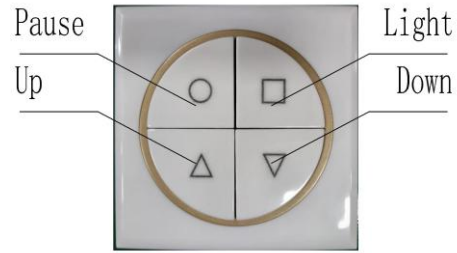

Fig 6.2
(2) Method 2: Use the wall-mounted remote control (Figure 6.2). Press the Up or Down button to control the rise and fall of the pool cover, and press the Pause button to stop the rise and fall.